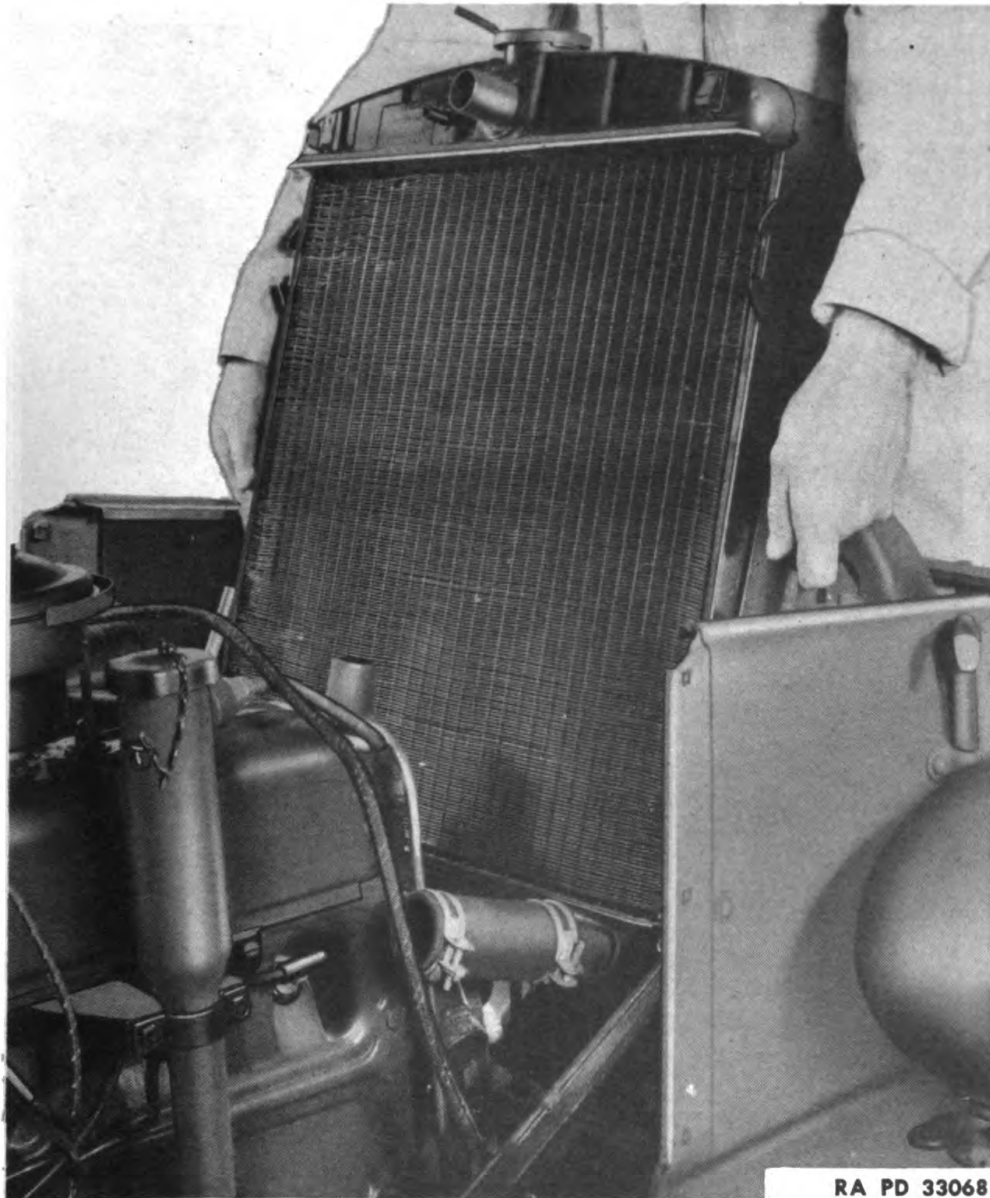

Figure 45—Radiator Core Removal
b. **Radiator Core Removal** (fig. 45). Remove radiator cap, drain the radiator, and remove all hose connections. Disconnect the steam relief tube from radiator. Remove the two bolts that attach radiator brace to the radiator support, loosen brace rod nuts at the dash, and tie front end of brace rod to hood. Remove the fan blades. Disconnect headlight wiring loom from the clips along the top and sides of radiator. Remove the six cap screws (three on each side) that hold fan shroud and radiator to the support. Push the fan shroud to one side, slipping it past bolt that attaches radiator support, and lift fan shroud up and out. Lift radiator core up and out, being careful not to damage core.